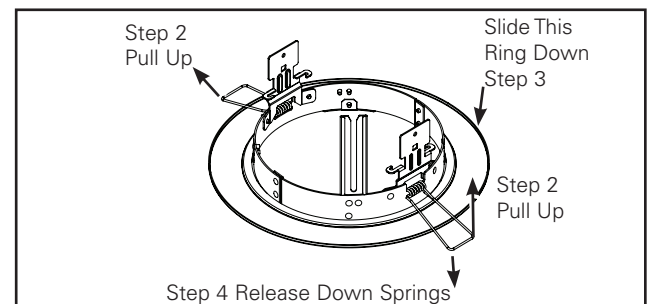

Figure 1. Installed Position
1. Adapter band rings need to be installed on the housing before the housing is installed in the ceiling (Figure 1.).
2. Bend the springs up by compressing them as shown (Figure 1.).
3. With the flat surface down, carefully slide the Adapter Ring over the springs (Figure 1.).
4. Release the springs slowly (Figure 1.).